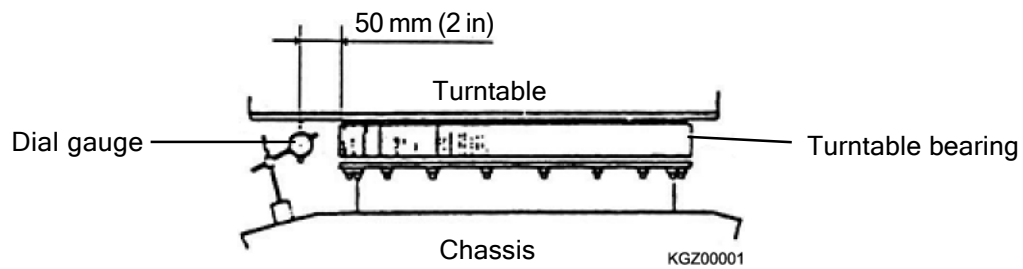

Fig. 2-10 Checking freeplay
- a. Set a dial gauge between the turntable and the chassis as shown in the Fig. 2-10.